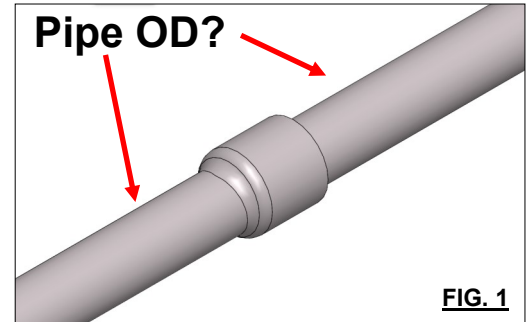

FIG. 1
Step 1. Prepare pipe surface by thoroughly cleaning the surface of all rust, dirt, scale, and debris. Verify that the sleeve is the proper diameter for the main pipe on which it is to be installed. Use a pipe outside diameter (OD) tape to confirm main pipe diameter (See Fig. 1). Verify that the pipe to be repaired has the structural integrity to withstand the fitting's mechanical forces. Consult with a piping engineer if needed.